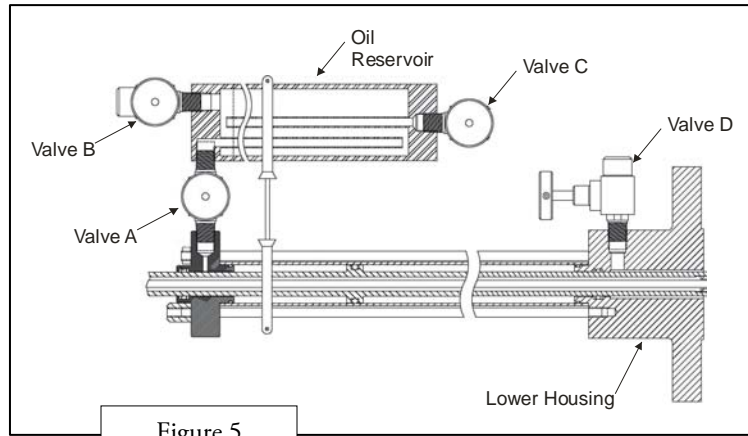

Figure 5
7. Make sure that all valves are closed on the oil reservoir (Figure 5).
8. Make sure to close the outlet port valve on the IHRA-4SS (Figure 5).